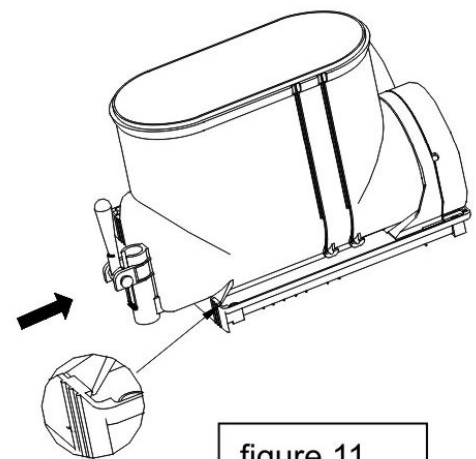

figure 11
6. Push the bowl/tank towards the rear wall of the unit until it fits snugly around the gasket. The front fastening hooks must properly engage (fig.11). Use fresh mix to remove any remaining sanitizer from the bottom of the bowls/tanks. Drain this solution and do not rinse out the machine.